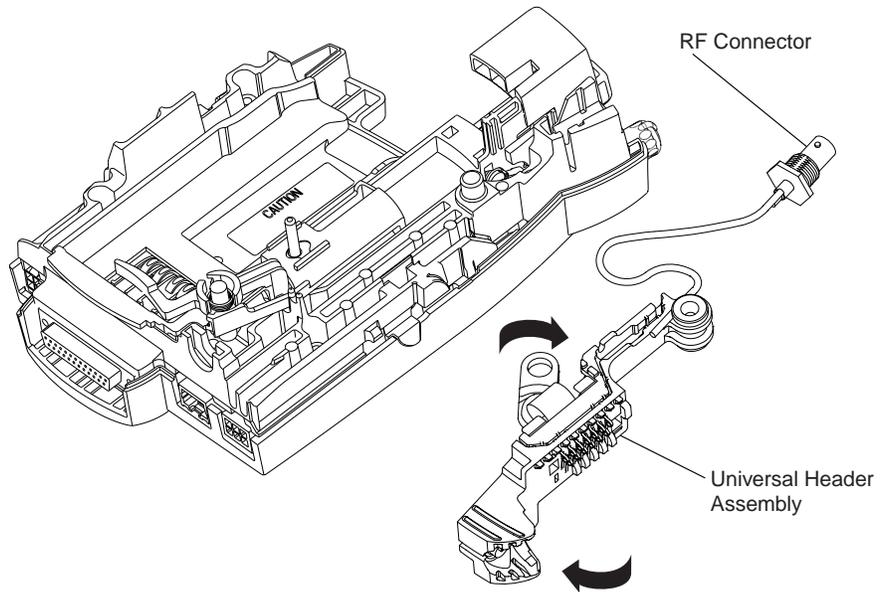

Figure 14 Reassembling the Universal Subassembly
15. Lay the universal subassembly next to the back housing with the universal link facing the back housing and the RF connector pointing toward the top of the back housing (see Figure 14 for positioning of universal subassembly).
18. While being careful not to pull or damage the flex, rotate the universal header subassembly clockwise until the RF connector points toward the bottom of the back housing assembly. (Refer to Figure 14.)